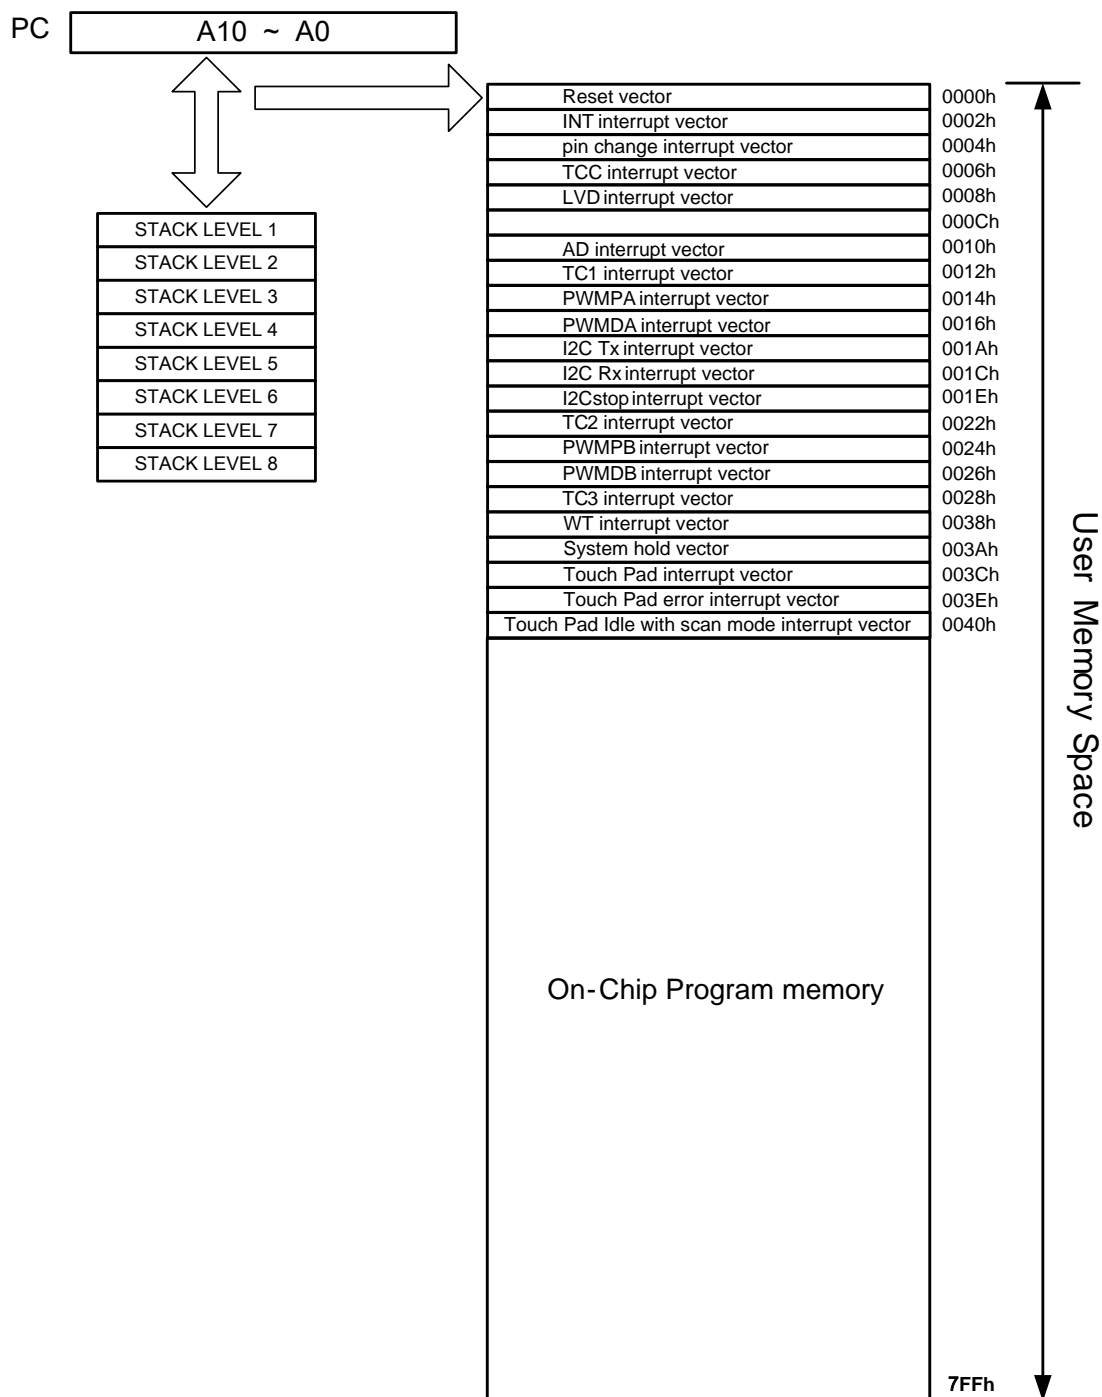

Figure 6-1 Program Counter Organization
- Depending on the device type, R2 and hardware stack are 15-bit wide. The structure is depicted in Figure 6-1.